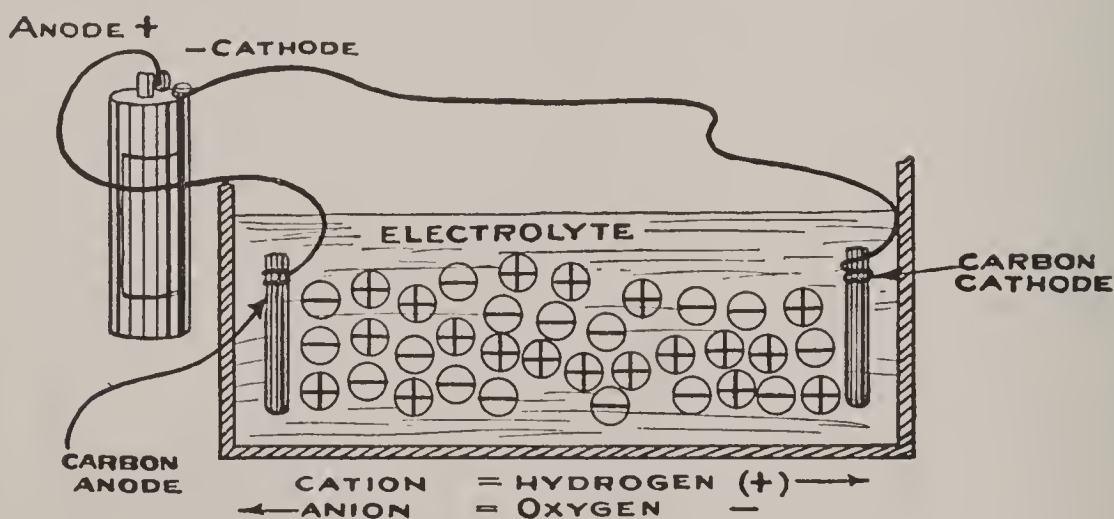

FIG. 73.—Diagram of the Theory of Ionization.
are called *anions*. Now the hydrogen (H) atoms are always charged positively, and these ions of the water (H_2O), or other electrolyte, collect at the *negative* electrode, which is the carbon connected with the zinc pole of the battery, while the oxygen (O) atoms are always charged negatively, and these ions collect at the *positive* electrode, which is the carbon connected with the carbon pole of the battery, as shown in Fig. 73.